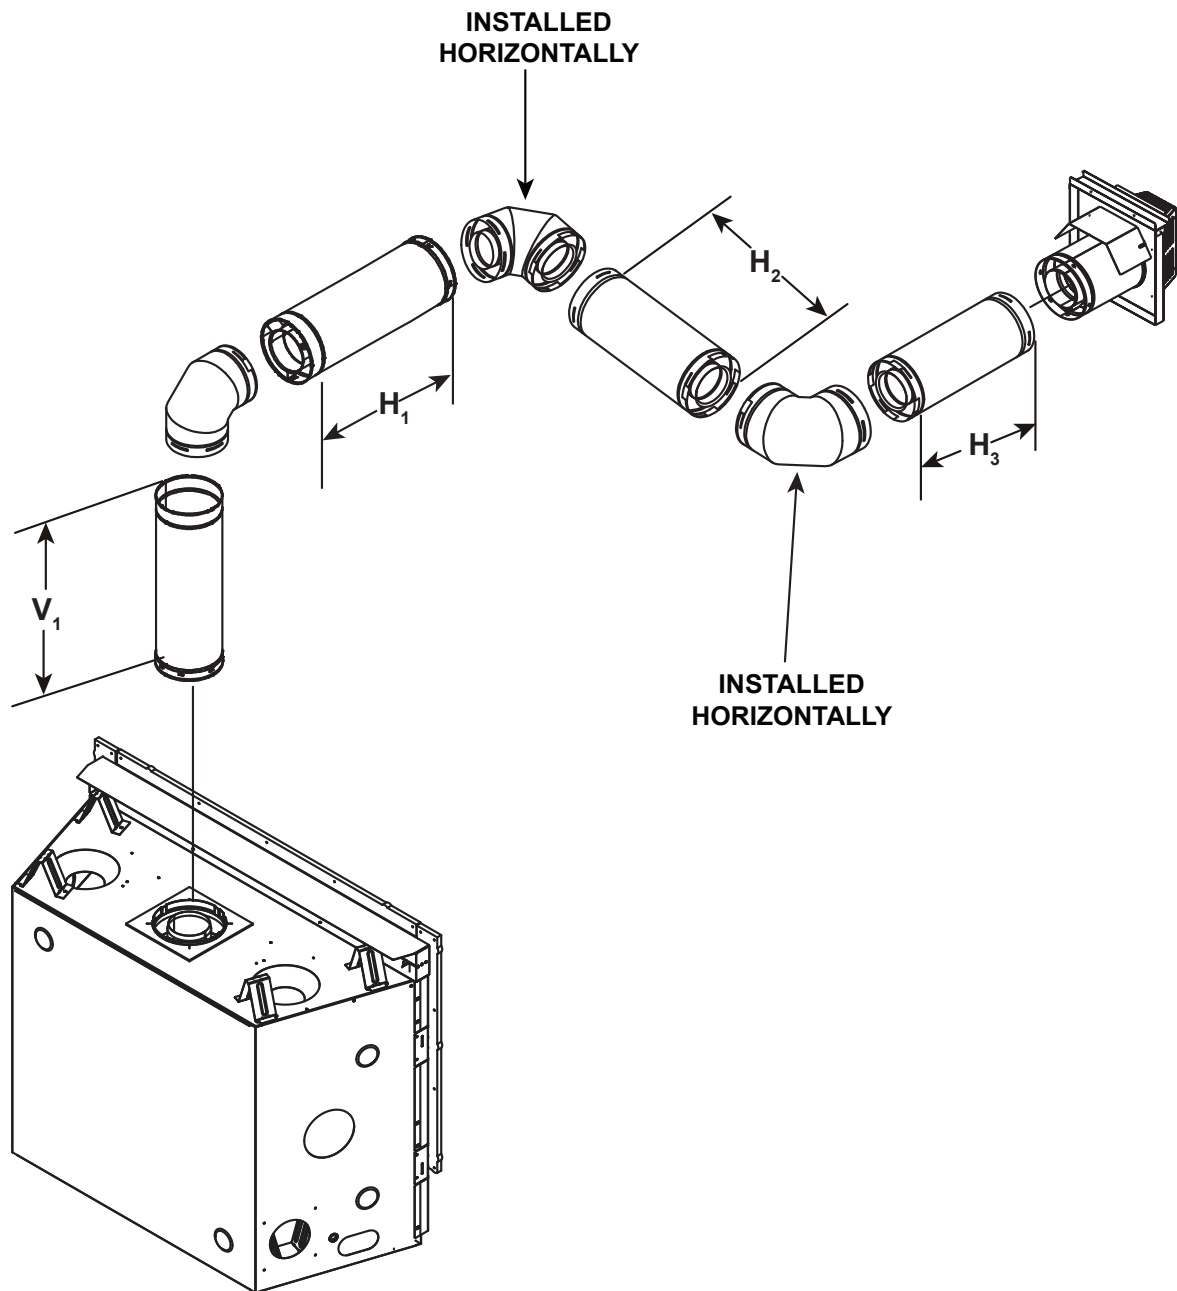

Figure 4.15
- • A maximum of three 90° elbows (or six 45° elbows) may be used in any vent configuration unless configured as shown in Figure 4.20 which allows four elbows. Some elbows may be installed horizontally. See Figure 4.15.